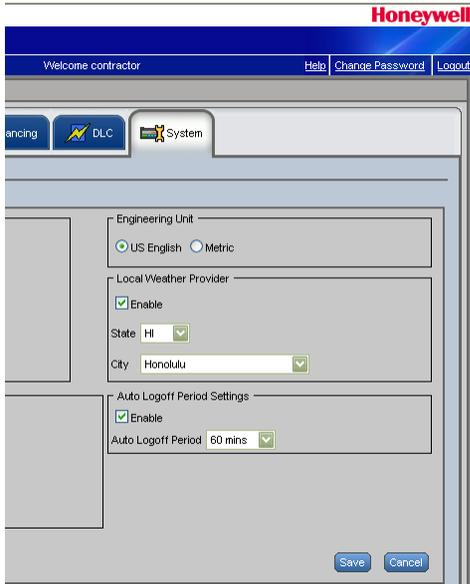

Fig. 15. Configuration window - System Tab - General sub-tab.
4. Click the **System** tab. The **System Configuration** page displays as shown in Fig. 15.